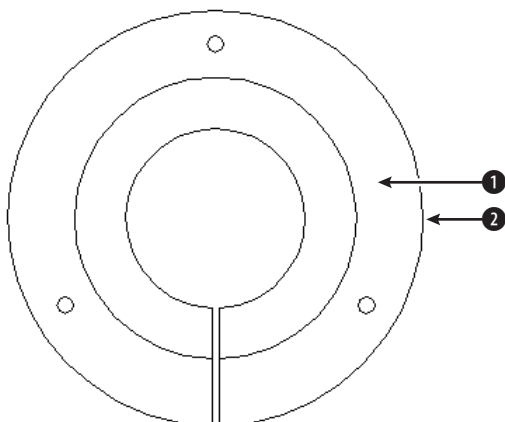

Figure 16-18: A bushing
2. Save the file as `ab16-06.dwg` in your AutoCAD Bible folder. This is a bushing, shown in Figure 16-18.
5. At the `Select internal point:` prompt, choose ① in Figure 16-18.